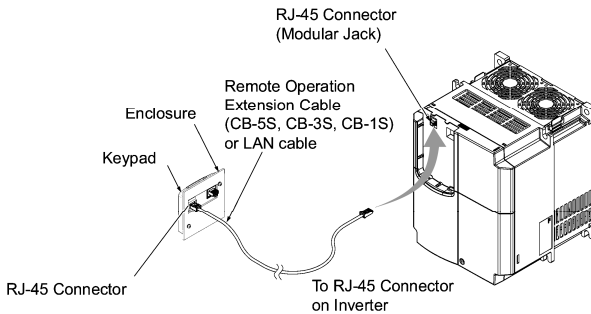

Figure 2.35 Connecting a Keypad and an Inverter's Standard RS485 port
- ⑤ Connect an extension cable (CB-5S, CB-3S or CB-1S) or off-the-shelf straight LAN cable to RJ-45 connectors (Modular jacks) on the keypad and inverter (standard RS485 port.) (Refer to Figure 2.35)